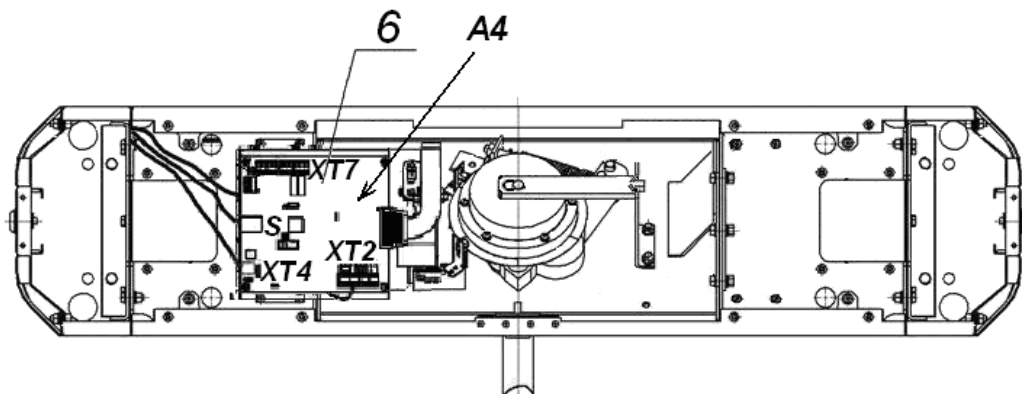

Figure 10. Cable layout inside the housing
7. Open the housing side cover (10) with housing side cover lock (11).
10. Open the housing top cover (3) with the key (4). The sequence of top cover opening is described in Section 6.
11. Pull the cables inside the housing. Recommended cable layout inside the post is shown on Figure 10.